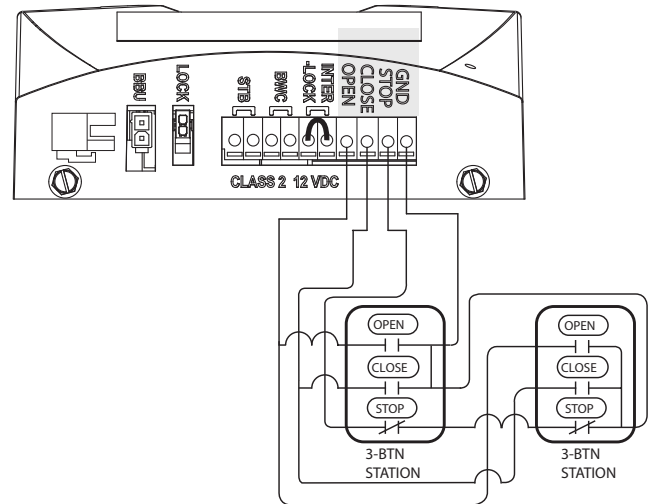

Fig. 3
- They are labeled and must be put in their matching fixtures. Fig. 3
3. For a multiple open/close/stop installations, make connections as shown in Fig. 3.